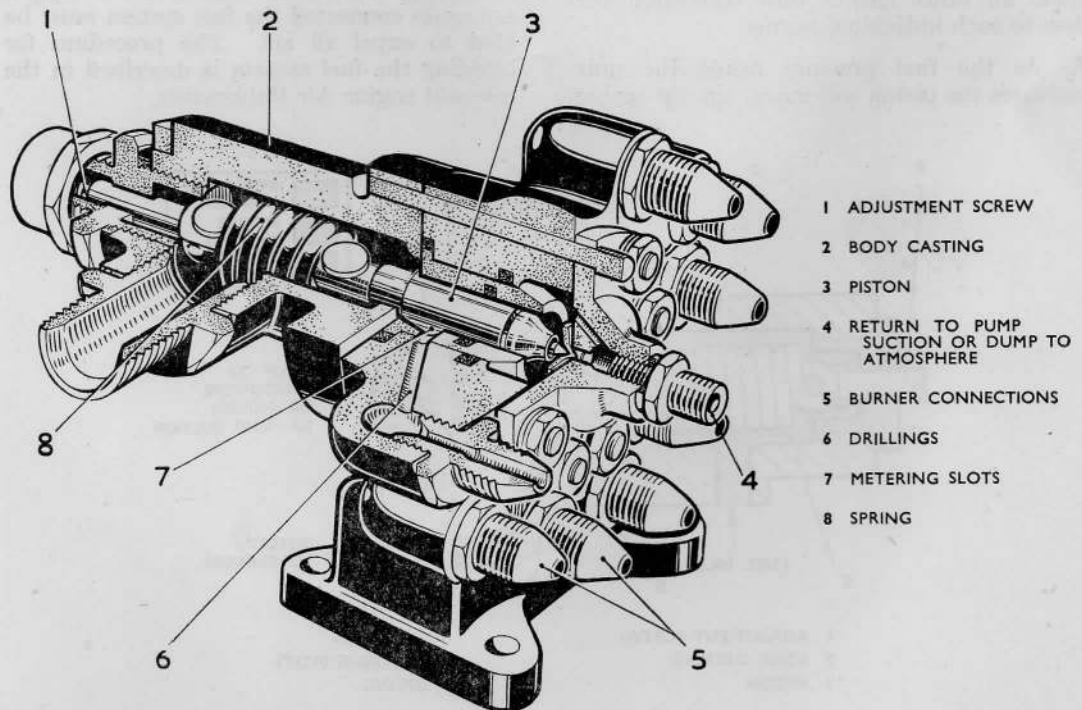

Fig. 1. Cut-away sectioned view of flow distributor
3. The flow distributor (fig. 1) consists essentially of a spring loaded piston (3) which operates in a closely fitting cylinder in the body casting (2). Accurately shaped metering slots (7) in the base of the cylinder terminate in drillings (6) in the walls of the cylinder. These drillings radiate to their appropriate burner connections (5) spaced around the unit.
4. The loading of the piston spring (8) may be altered by means of the adjustment screw (1) while an outlet (4) above the piston may be connected either to pump inlet or to atmospheric dump.